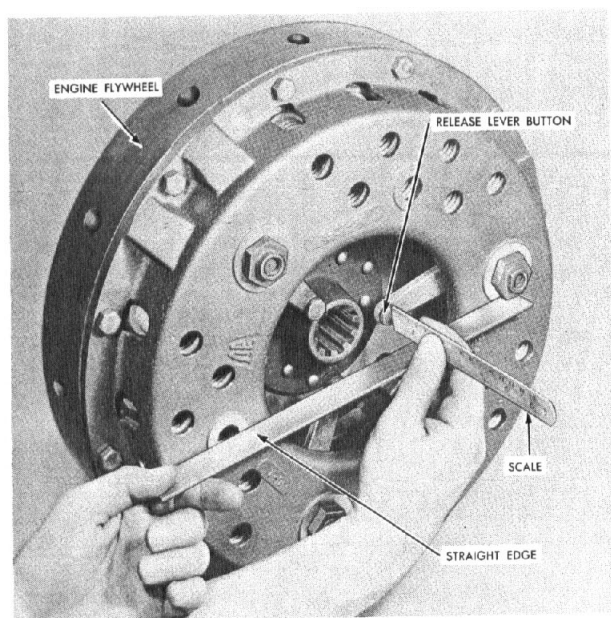

Fig. 19 —, Checking Dimension "A".
(1) The intermediate plate driving pins must be removed if the flywheel is to be machined. Replace drive pins when replacing clutch.
(2) The driving pins must be installed with the contact face perfectly square to the friction face of the flywheel. To assure perfect alignment, it is recommended that a tool (Lipe T-10670A) be used. (Refer to Fig. 17). If this tool is not available, place a machinist square firmly on the rim of the flywheel and make sure the contact face of the driving pins have even contact with the square (Fig. 19 and 20, page 16).
(3) The 14" two plate type DP clutch driving pins are held in place by lock nuts on the threaded end projecting through the flywheel which must be securely tightened. The 15" two plate driving pins should be locked in place by cup point Allen screws located in the bottom of the tapped holes used for attaching the cover assembly to the flywheel. After the driving pins are properly aligned and secured and a new pilot bearing installed, you are now ready to install the clutch into the flywheel. It is essential that a splined shaft of the correct size for the pilot bearing and driven discs be used to align the driven discs before the cover assembly is attached to the flywheel.
(4) Two-plate driven discs that are identical and interchangeable are marked "intermediate plate side" to indicate their proper positioning. Those driven discs that are not identical and/or interchangeable are marked "Pressure plate side" or "Flywheel side" to indicate proper position.
(5) Install the flywheel side disc in the flywheel and then place the intermediate plate on the driving pins and check for lash or free play at the driving slots. The intermediate plate should fit over the driving pins with a clearance of not less than .007" at the contact faces which will permit free movement of the intermediate plate. If the clearance exceeds .012", the intermediate plate may cause some noise when the clutch is disengaged.
(6) With the splined alignment shaft holding the driven discs in position the cover assembly can now be attached to the flywheel. Attaching cap screws should be evenly tightened until the cover is drawn tight to the flywheel. New cover assemblies have either wooden blocks positioned between the release levers and the cover or hold down bolts which facilitate assembly to the flywheel. Make sure these blocks or hold down bolts are removed after installation of cover assembly.
(7) After the wood blocks or hold down bolts and splined alignment shaft have been removed, the "A" dimension should be checked to assure the proper seating of the cover assembly to the flywheel. See Fig. 19 and 20 on page 16 and chart on pages 26-28.
(8) Care should be used in installing the transmission to prevent bending or otherwise impairing the disc assembly which will cause clutch drag.